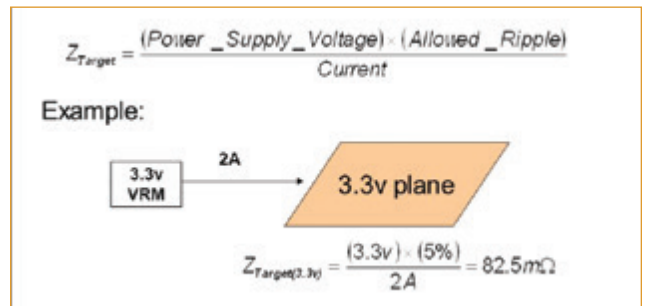

FIGURE 3. Target impedance calculation: satisfy the ripple.
Impedance. To some extent the terminology itself is confusing. Transient (AC) power analysis isn’t about simulating the time-dependent noise on the power plane at all. Instead, it’s about ensuring impedance is controlled. This way, any time-dependent variations in the current pass through a resistance so low it cannot produce a voltage high enough to be concerning. We control variation in the voltage by limiting resistance. Although each device has its own criteria for minimum voltage, as board designers, we determine how much variation we can permit in our supply voltage. Driven by the most demanding devices, acceptable “ripple,” or deviation from ideal voltage can be bounded simply by controlling the target impedance (FIGURE 3).